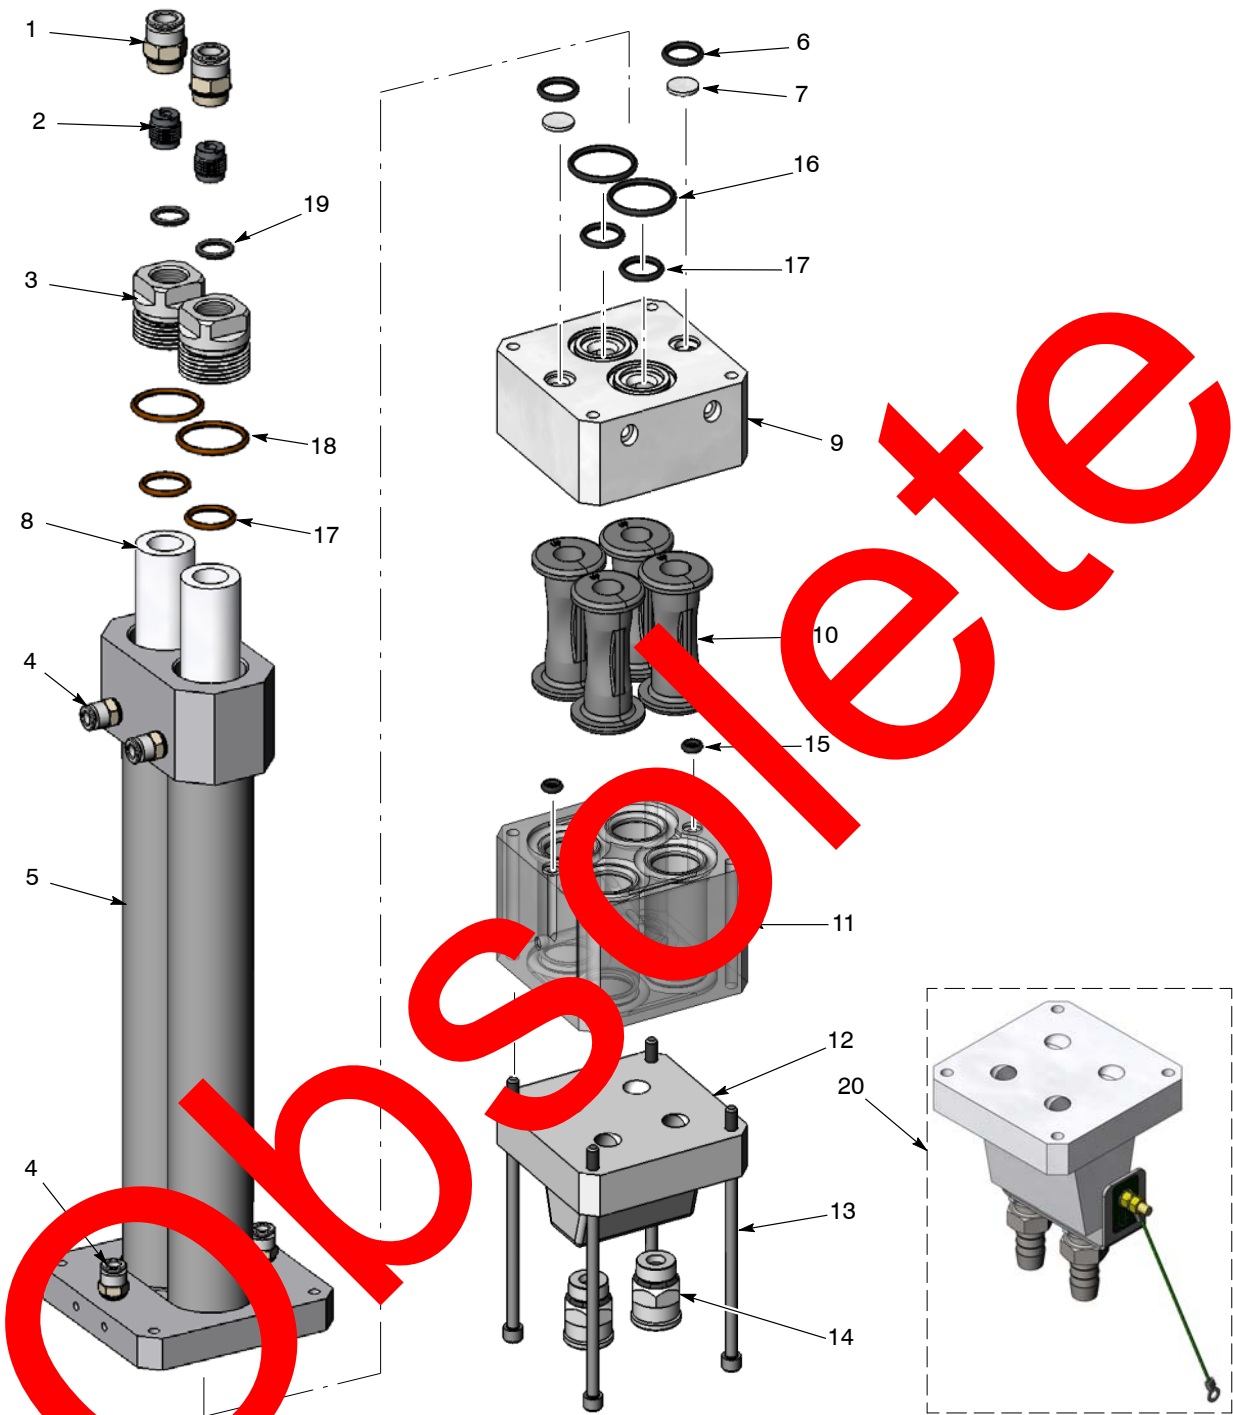

Figure 11 Assembly and Assembly
6. See Figure 11. Starting with the fluidizing tubes, disassemble the pump as shown.